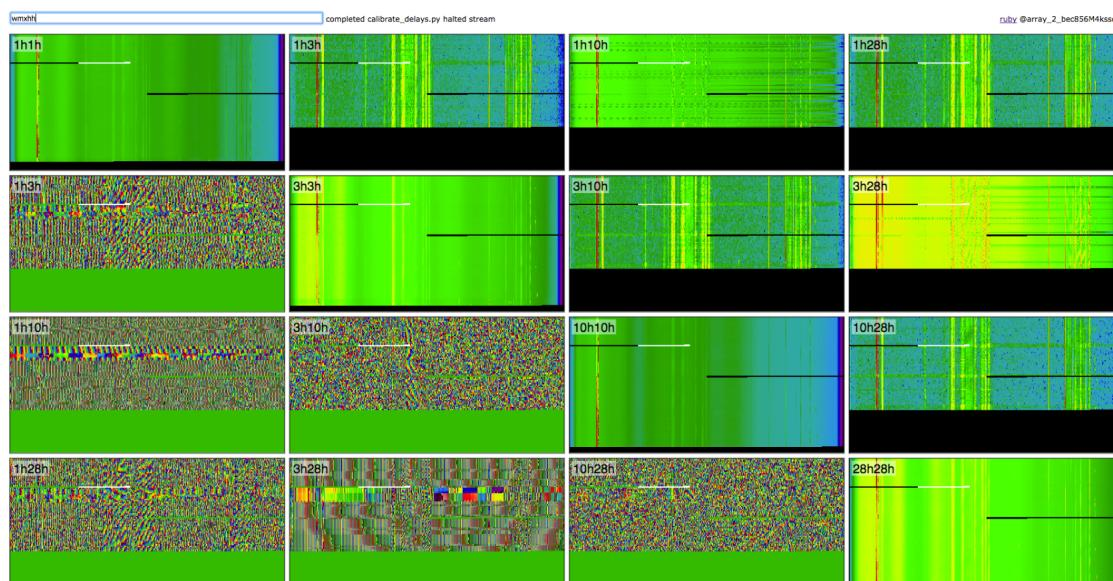

Figure 3.3: SDP waterfall plot.
- During observation, look at the waterfall plot(signal displays) to see if there is a constant colour on its baseline. If the antenna looks noisy as in **Figure 3.3** or has a rainbow, ask AoD to check its delay models.